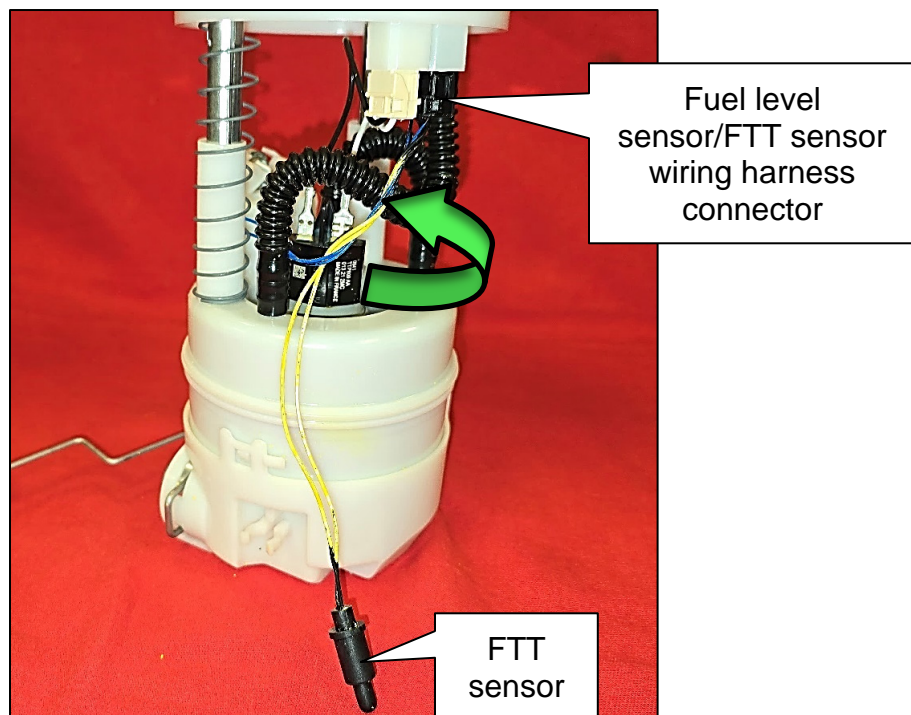

Figure 9
13. Reconnect the black fuel level sensor and FTT sensor wiring harness connector into the fuel pump module as shown in Figure 9.
14. Wrap the FTT sensor with wiring around the fuel level sensor wires clockwise two (2) times (this will keep the fuel level sensor/FTT sensor wiring harness away from the fuel pump terminals).